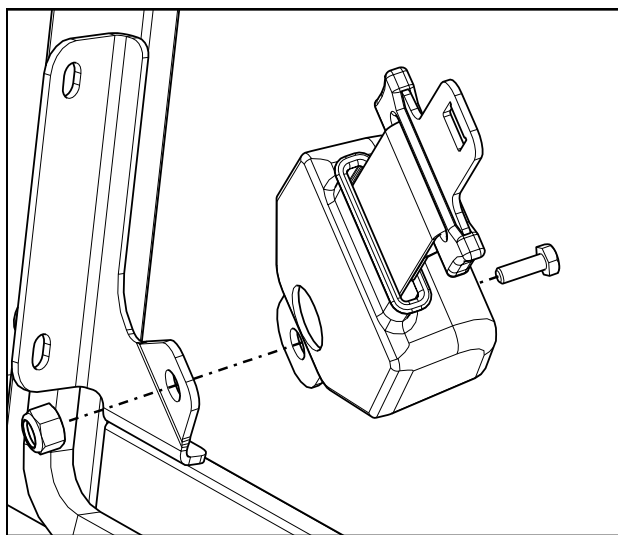

Fig. 11.3: Seat belt
- 11.3 Mount Seat belt to the driver side mounting bracket on side frame using (1) 7/16-14 x 1" hex head bolt and 7/16-14 lock nut as. Tighten mounting hardware to 50 ft.-lbs. (67.8 N-m). **(Figure 11.3)**